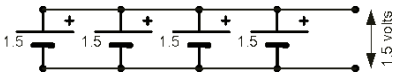

Figure 4
- When the sections are connected in parallel (Figure 4) in bright sunlight the solar panel produces approximately 1.5V at 1.2A.